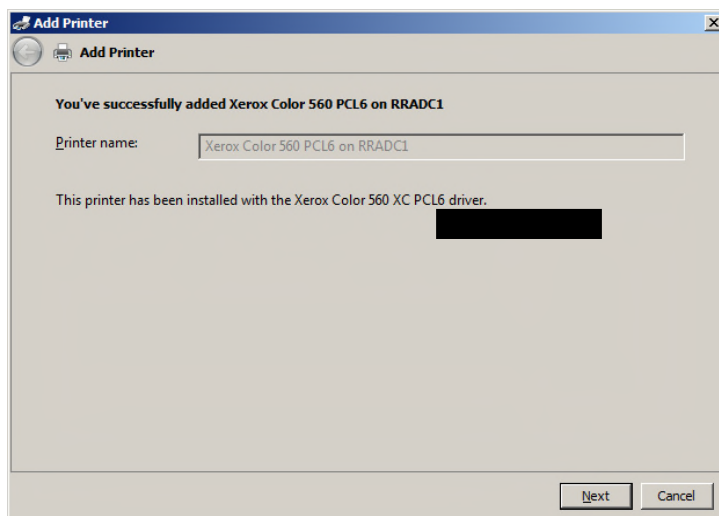

Figure 10.35 - Confirmation
- 18) Once you have selected the proper driver or the computer has automatically installed the proper driver you will be presented with Figure 10.35 as shown below indicating a successful printer installation.